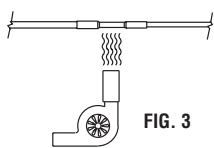

FIG. 3
6. After testing the installation, use a Hot air gun\*\* and apply heat directly to all of the heat sealable butt connectors used working from the center out to the edges (Fig. 3), until the tubing shrinks and adhesive flows. Allow to cool before inspecting the splices and checking integrity.